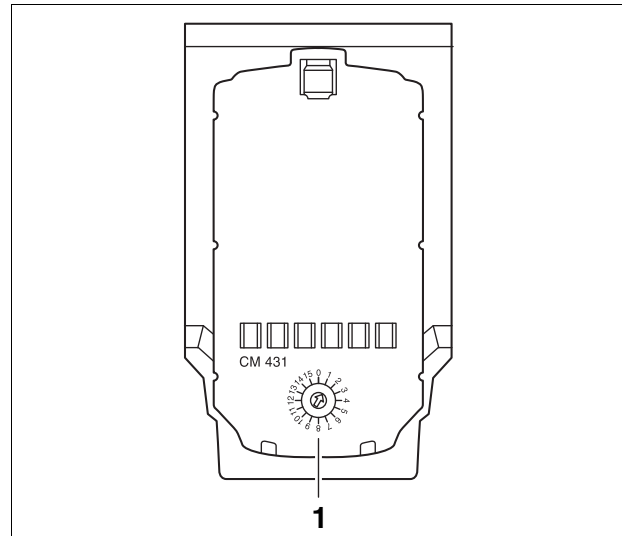

Fig. 9 Setting addresses
Address settings (→ Fig 9, [1]) for the Logamatic 4321/4322 control panels are made on the CM431 module (behind the MEC2 remote control).
- You can now set the control panel address with a screwdriver (→ Fig 9).